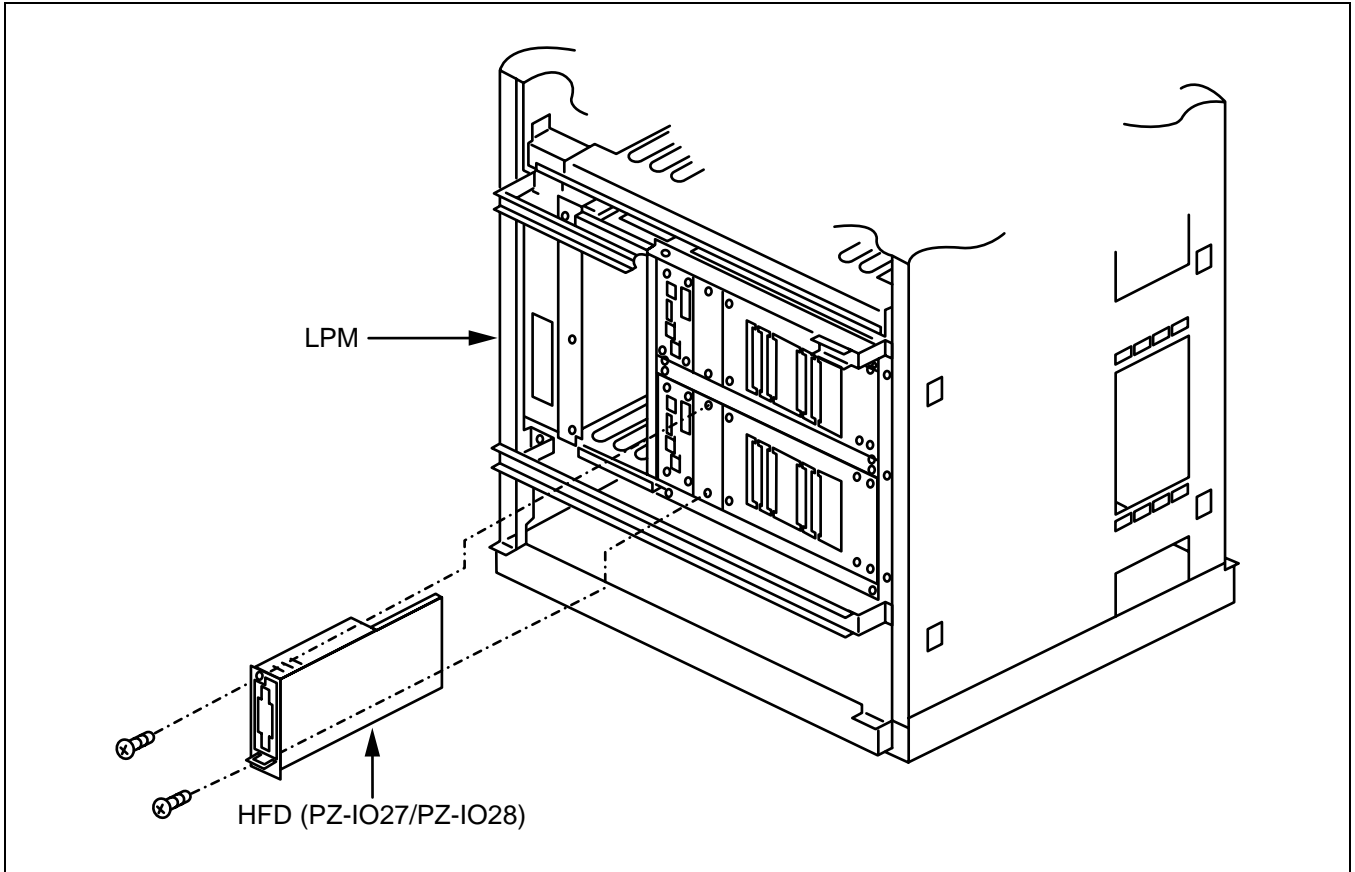

Figure 4-8 Insertion of New HFD Into CPR
- (5) Insert the new HFD (PZ-IO27) into the CPR. Then, fasten the two screws as shown in Figure 4-8.